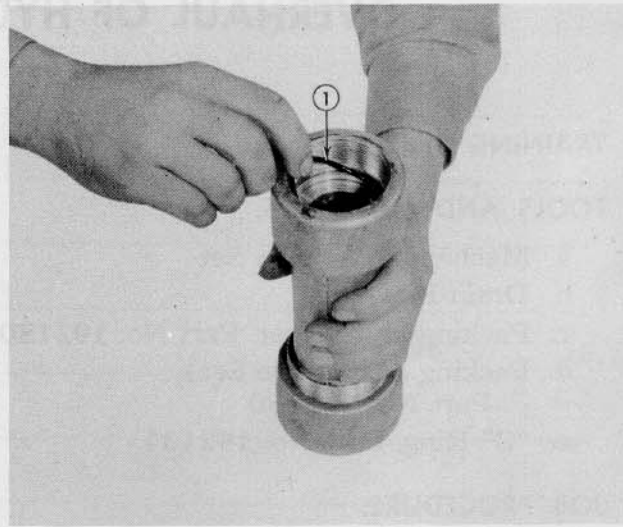

Fig. 12
Step 9—Remove and install new “O” ring (1—Fig. 12).